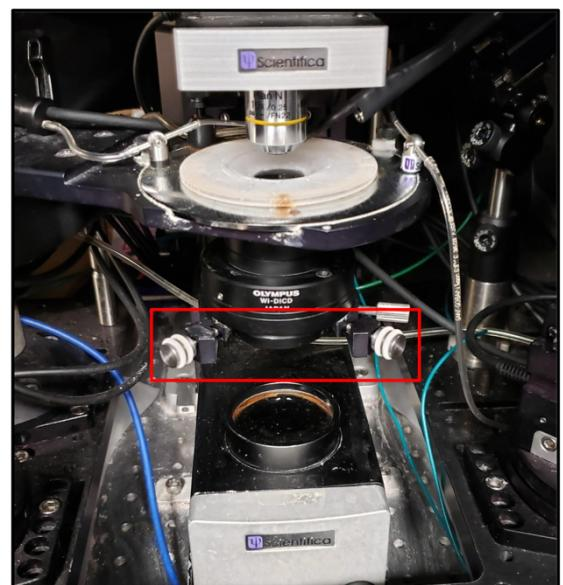

Figure 10: The knobs that center the light stimuli.
- Turn off the LED, then project the alignment cross on Symphony. Center the alignment cross using knobs on the condenser (Figure 10). The knobs move the condenser diagonally.